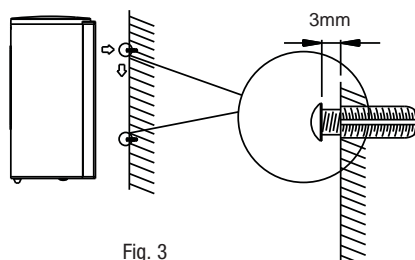

Fig. 3
3. Insert two screws into dowels and tighten. Leave about 3mm gap between the screw and the wall to hang the soap dispenser. (Fig. 2 and Fig.3)